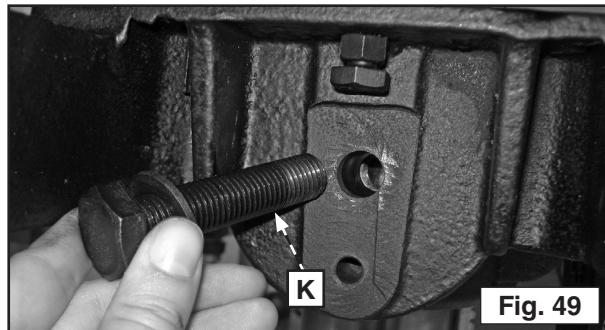
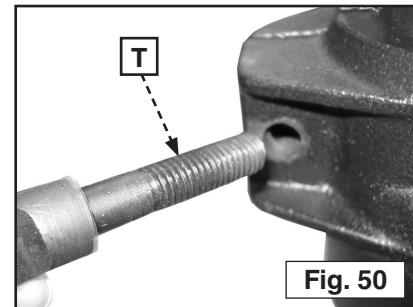

Fig. 49
Fig. 50
Occassionally remove the knuckle clamp bolt (K) Fig. 49 and table clamping bolt (T) Fig. 50 and clean off all dust and other contamination. Also, be sure to clean any dust or contamination from the hole using a small brush (like an old toothbrush).